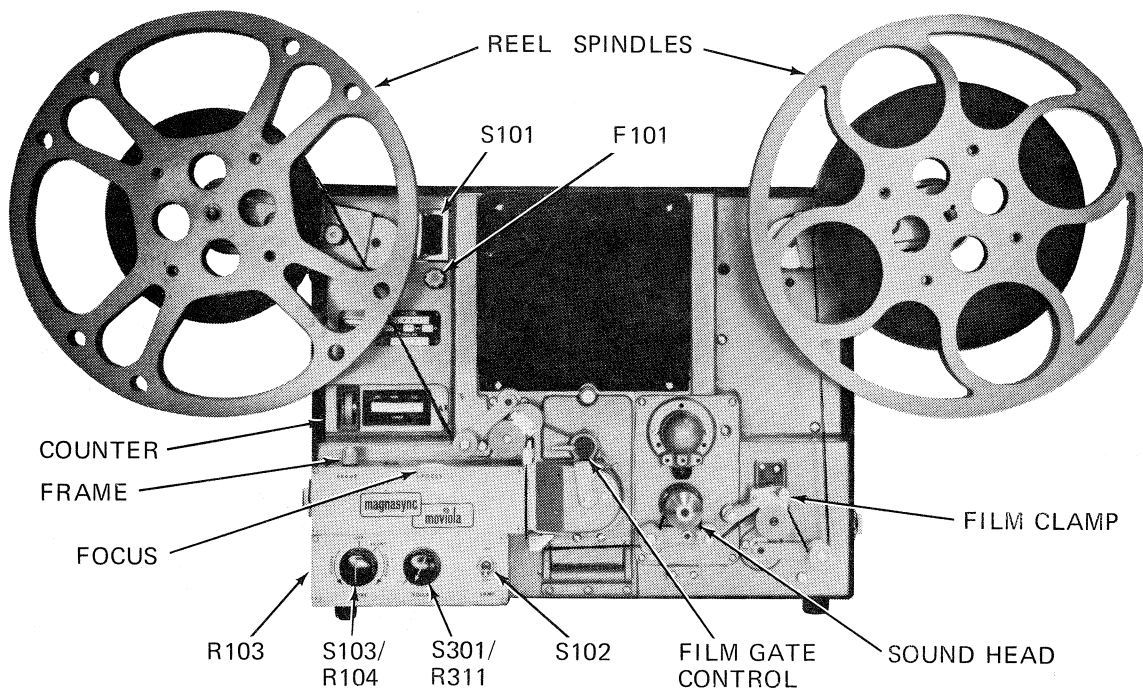

Figure 4-1. Operating Controls and Indicators
4-4. The function of each control and indicator is described in table 4-1. Operating controls and indicators and shown in figure 4-1.
4-6. The following paragraphs contain operating procedures for the Model LVR Library Reader (see figure 4-1).
- j. Thread film under left roller on sound head assembly, over sound drum and under right-hand roller. Be sure that tensioning arm carrying right and left roller is in the center of its up and down travel. See heavy line on figure 4-1.